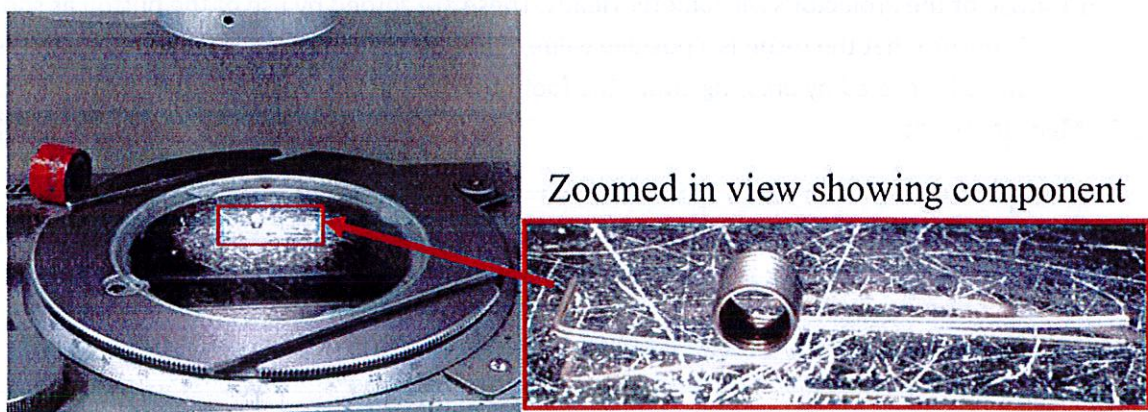

Figure 5: Component in place on the flat glass.
**6.2.4.Set Up for Measurement.** Place the component to be measured flat on the glass stage of the profile projector, as show in Figure 5: ensure the magnification is set to 10x, line the component up as required using rotary stage with the rotating screen set to 90.0°